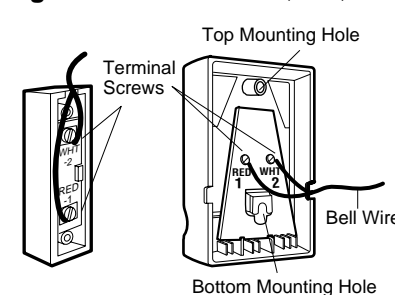

Figure 4 REMOVE COVER
- Model 1210E - Lighted door control:** Remove the cover from the Lighted Door Control. Fasten to wall with 6ABx1-1/2" self-tapping screws (Figure 4)